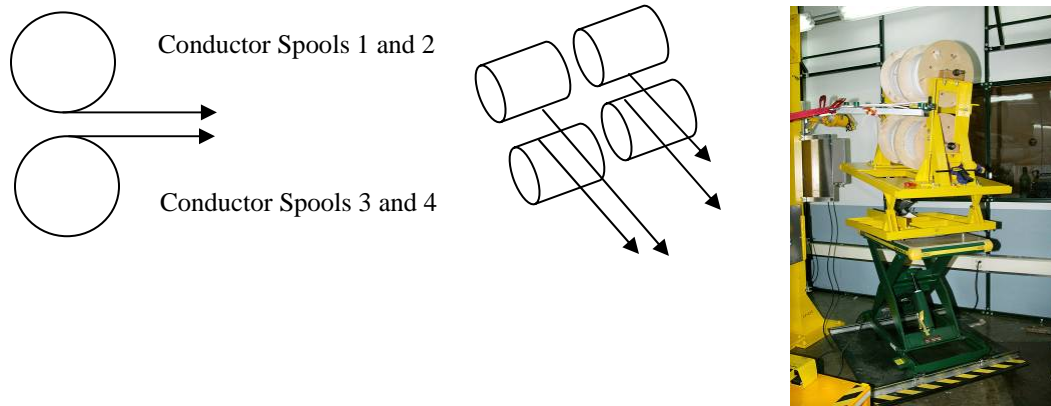

Figure 1- Orientation of Copper spools
Load (4) spools of copper conductor into the conductor payout spool fixture. Position the spools in the fixture with the upper spools (1 and 2) being fed from the bottom side and lower spools (3 & 4) being fed from the topside [See Figure 1- Orientation of Copper spools] [Note: the cable lead connectors may be brazed onto the conductors prior to installing the copper spools per section 6.13]